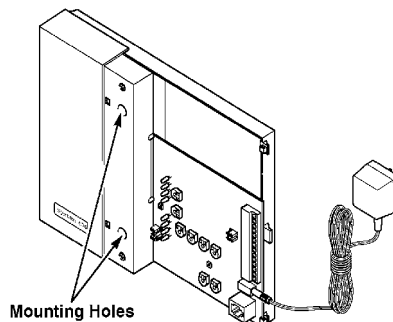

Figure 3. Base Station Mounting Holes
2. Mount the base station using the included screws and anchors. (See Figure 3.)